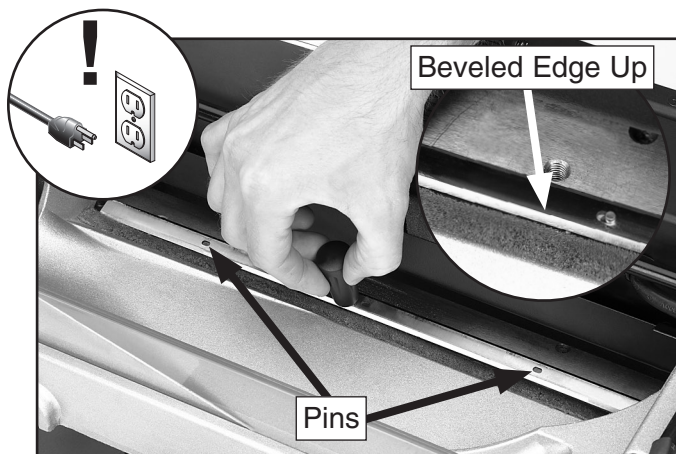

Figure 32. Knife installation.
2. Using the magnets, position the knife over the two pins on the cutterhead. Be sure the knife is oriented with the beveled edge up, as shown in **Figure 32**.